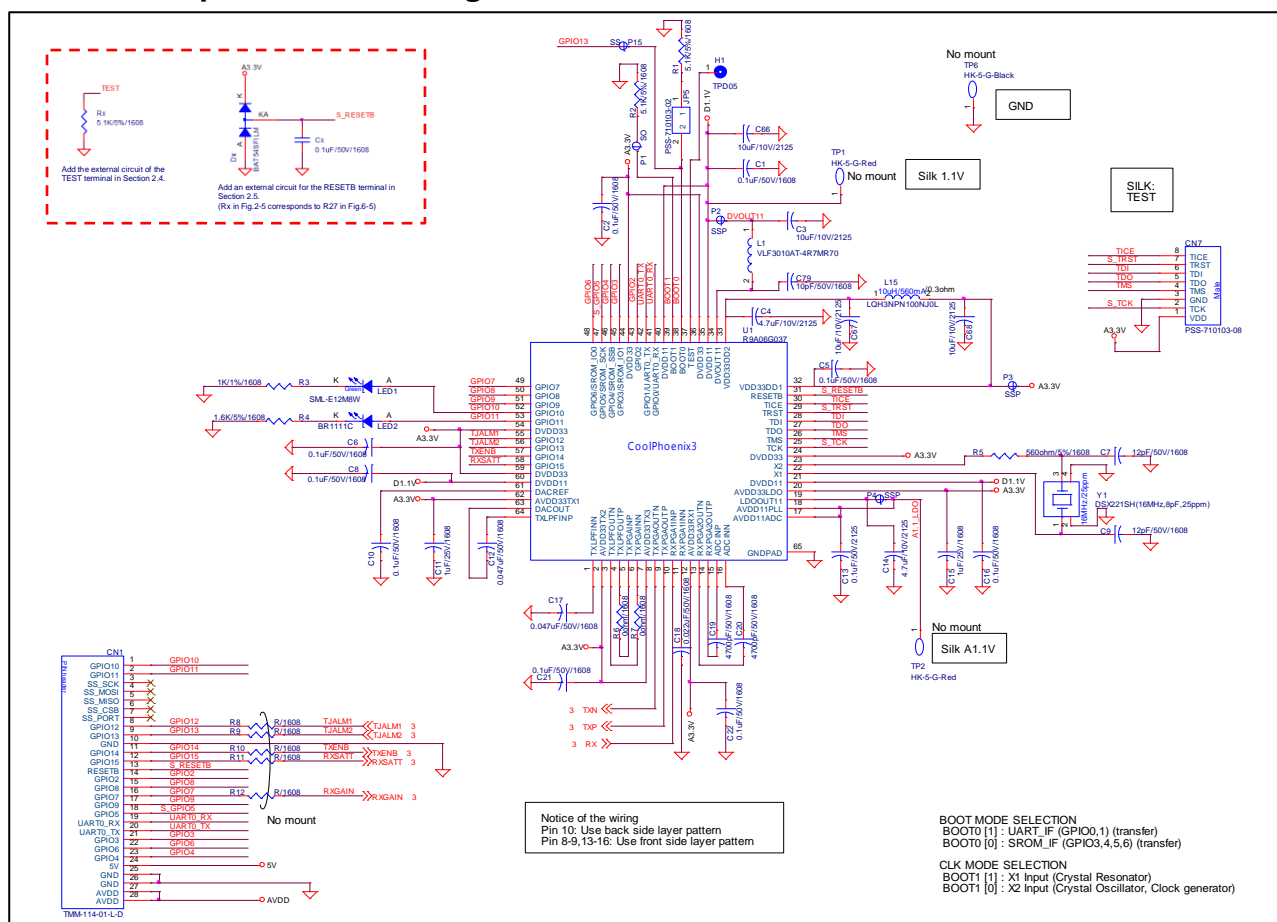
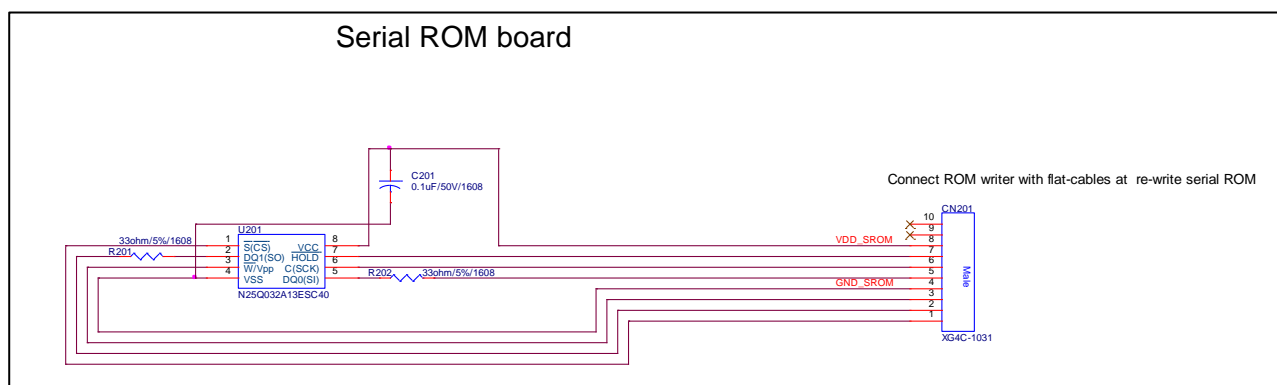

Figure 6-1 PLC board (R9A06G037 peripheral circuit)
Figure 6-8 S-ROM board
- Section 6.1 shows an example of circuit design (Figure 6-1-Figure 6-8), and Section 6.2 shows an example of Bill of materials (Table 6-1-Table 6-6).